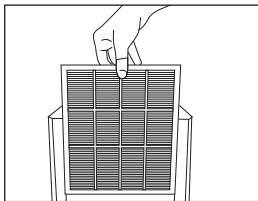

Fig 4
2. Catch the filtration mesh handle and move out (as shown in fig.4)